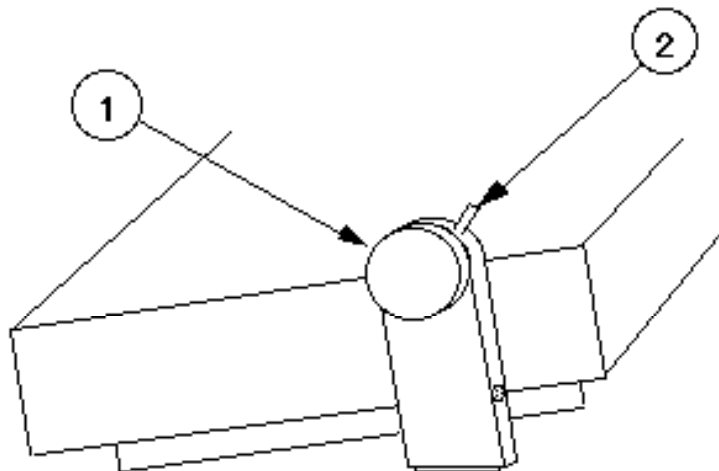

FIGURE 8
5. Remove the platen knob (Figure 8, #1) and the paper release lever (Figure 8, #2)